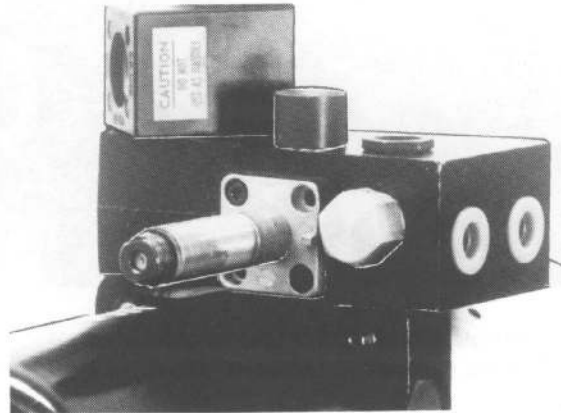

Figure 2-16
7. Remove two backing plates (one each side of the U-Valve). See Figure 2-16